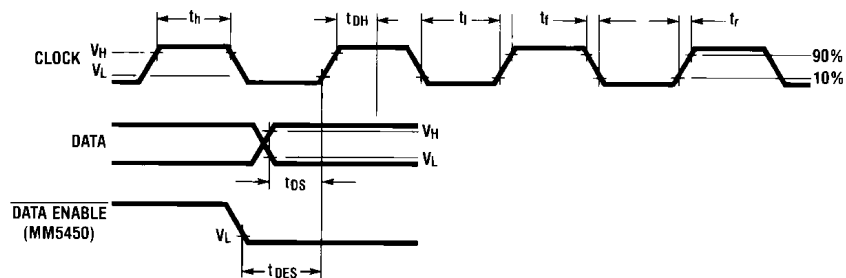

FIGURE 3
*Figure 3* shows the timing relationships between data, clock and  $\overline{\text{DATA ENABLE}}$ . A max clock frequency of 0.5 MHz is assumed.